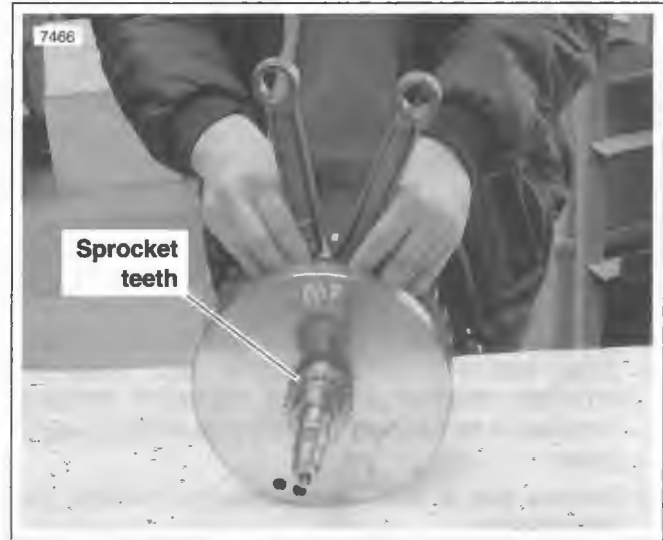

Figure 3-159. Connecting Rod Bearing Clearance
2. Check connecting rod bearing clearance. Orient the assembly as shown in Figure 3-159.